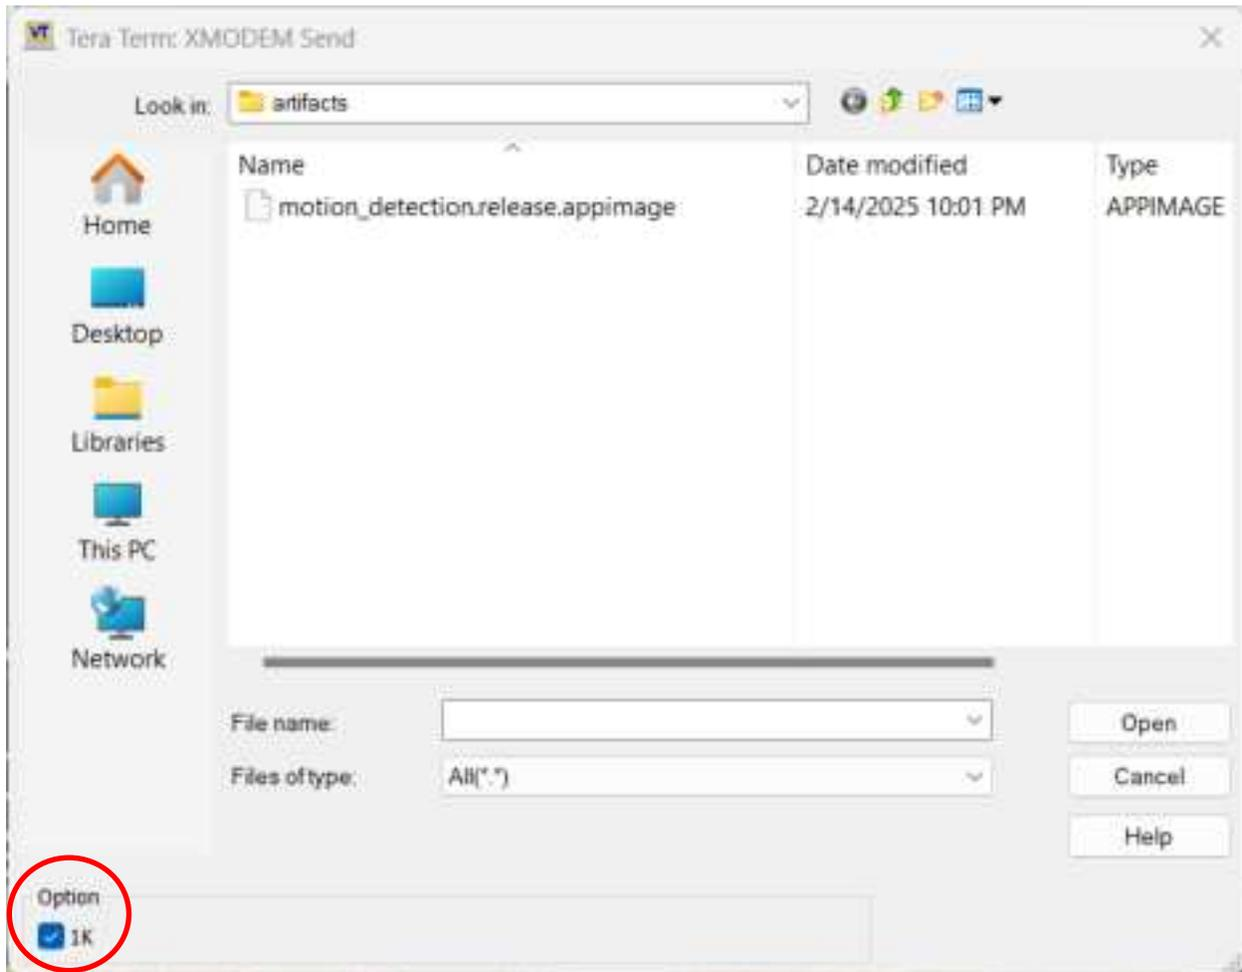

Figure 4. XModem File Transfer Selection Dialog
4. **Ensure that you select the “1K” option checkbox as shown in Figure 4.**